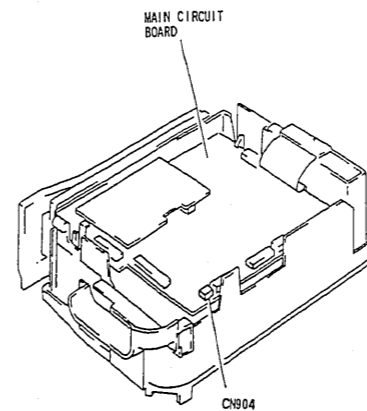

Fig. 3-6
- (9) Disconnect connector CN904 from the main circuit board. (See Fig. 3-6)
- (10) Apply DC3V to CN904 (loading motor).